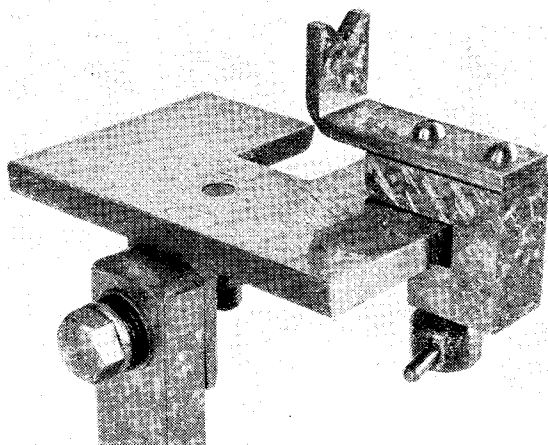
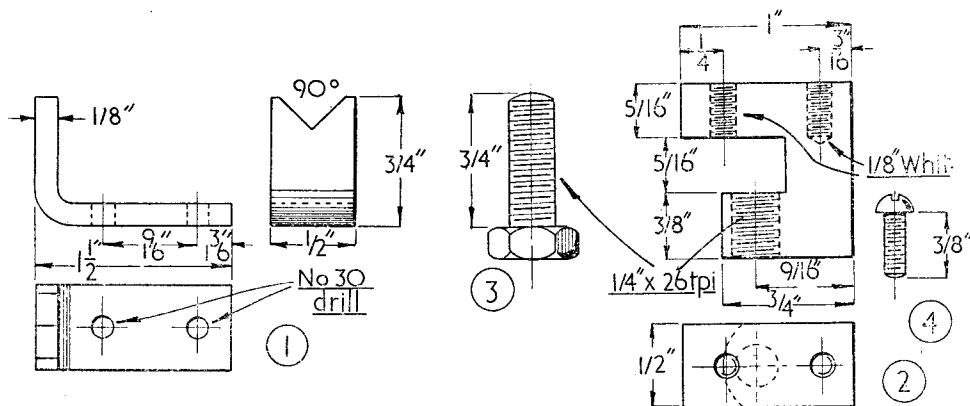

Fig. 1. Showing the V-rest attached to the grinding table
Fig. 2. Working drawings of the grinding rest
The general arrangement drawing, or in this case the photograph in Fig. 1, is intended to show the worker what he has to make, and the working drawings in Fig. 2 give the dimensions of all the parts. The V-rest, part (1), is made from a length of $\frac{1}{2}$ -in. \times $\frac{1}{8}$ in. mild-steel strip, and before being cut to length, the position of the screw holes should be marked-out as already described and then drilled $\frac{1}{8}$ in., but if it is found that these drill holes do not allow the $\frac{1}{8}$ -in.
It will be noticed that in the drawing in Fig. 2, showing the upper surface of the clamp, a curved broken line appears; this is the conventional way of indicating that a part lying underneath, namely the limb of the clamp, is formed with a